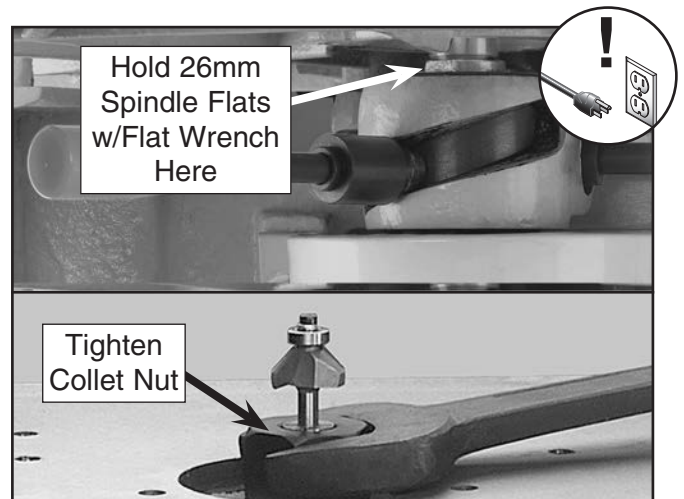

Figure 17. Tightening collet nut.
2. Loosen collet nut and insert router bit all the way (see **Figure 17**).
3. Use spindle elevation lever (see **Figure 17**) to raise spindle and gain access to spindle flats beneath table.
4. Hold spindle flats with spindle wrench, and tighten collet nut, as shown in **Figure 17**.